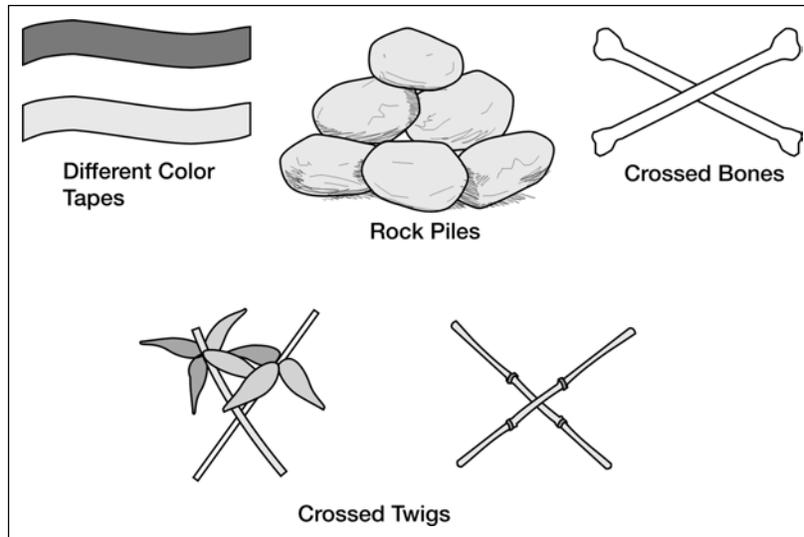

Figure 052-192-1242-1. Samples of Mine Markings
- (21) Trip wires, strings, or cables.
- (22) Evidence of electrical wires, batteries, mouse traps, clothes pins, steel tubes, or springs.
- (23) Small shiny metal plates, split lightweight bomb casings, empty cluster bomb canisters, and small parachutes or drogues (funnel shaped drag chute) from submunitions (all indicators of cluster bomb strikes or scatterable-mine attacks).
- b.** Improvised markings of mines, booby traps, and UXOs (Figure 052-192-1242-1).